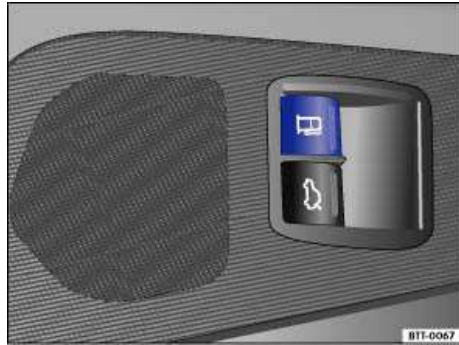

Fig. 156 In driver door: Release switch for fuel filler flap.
- Pull the release switch in the driver door upwards ⇒ fig. 156.